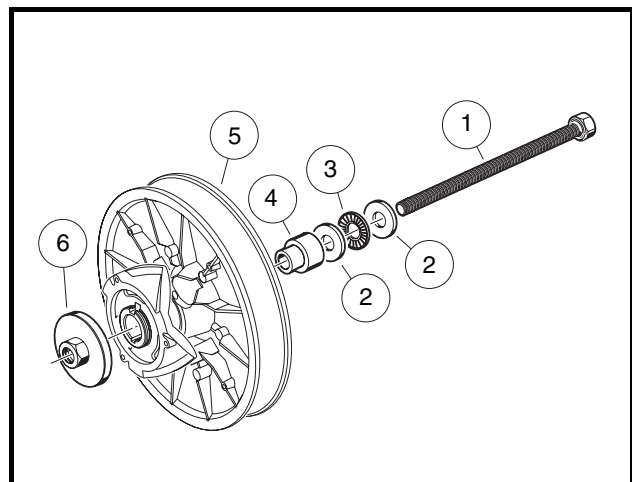

Figure 17-20 Cam Installation Tool
- 5.2.1. With the clutch loosely assembled, set the edge of the clutch body (5) on a clean, flat surface (**Figure 17-20, Page 17-15**).
- 5.2.3. Slide the bolt (1) through the clutch body (5) until the threaded bolt, washers, bearing, and hub guide are against the fixed face hub (**Figure 17-20, Page 17-15**).